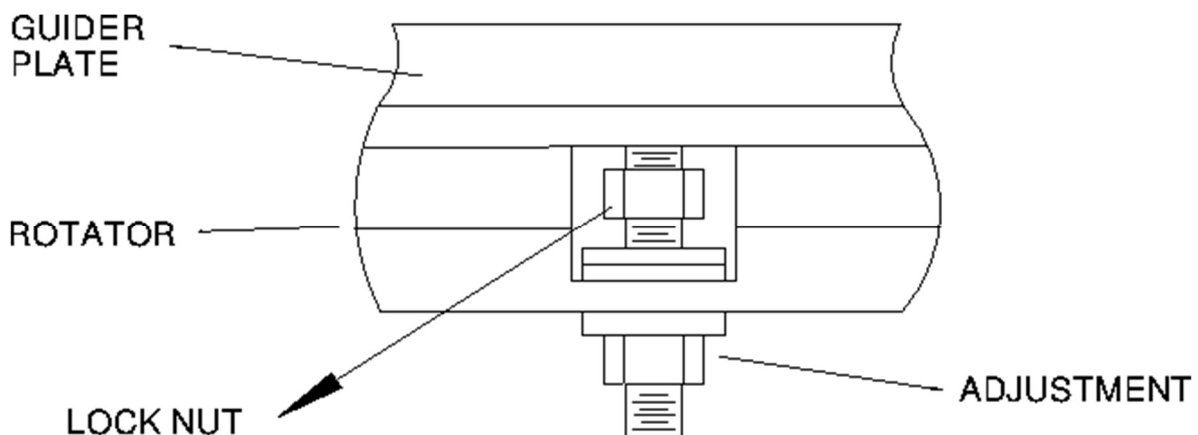

Fig. 4 Detail of tilt adjustment bolts on CRSP rotator.
- If one light of a pair gives much less signal than the other, the instrument needs to be tilted in the direction of that light, using the four bolts on the rotator (see detail, Fig. 4). You will need a 9/16" open-end wrench to do this.